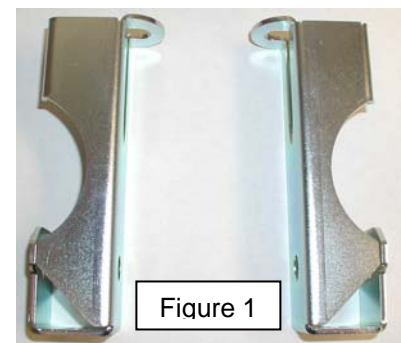

Figure 1
Step 4: Pre-assemble Lightning Rods. Start by identifying the right and left-hand (driver's side) versions of the bracket as shown in **figure 1**. If you have a 3-4" lift, assemble each LR using the shorter pair of fine-thread bolts; for 4.5-6" lifts use the longer bolts and spacer tubes as shown in **figure 2**, making sure that there is one washer on each side of the bracket. Add a dab of blue loc-tite to the threads before screwing into the gold quick-connect ball joint. Once loose-assembled, clamp the upper collar of the gold body in a vise so that you can tighten the bolt as shown in **figure 3**. Use the screwdriver through the holes to keep the bracket located relative to the quick-connect – the 'socket' in the quick-connect must face outboard (toward tire) while the uppermost tap on the bracket must face inboard (toward frame). The exact orientation